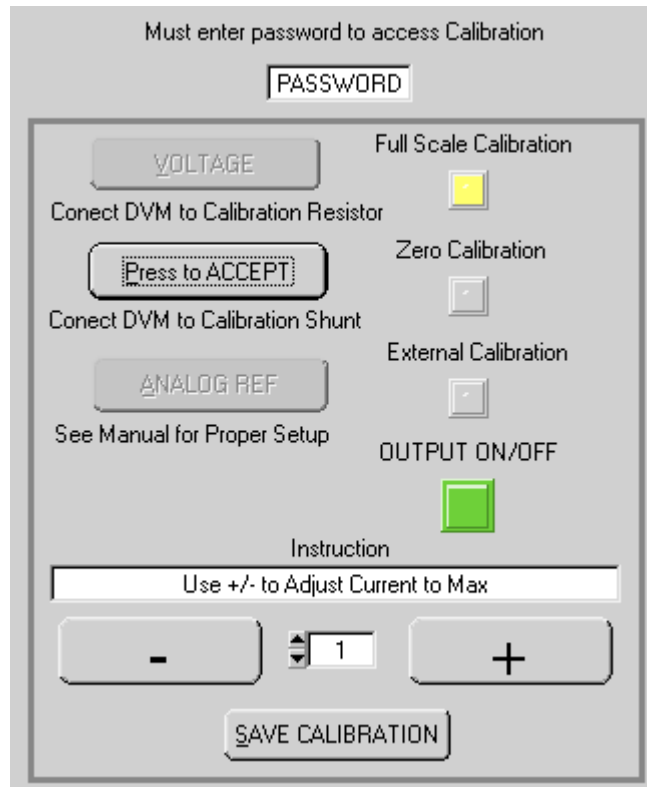

FIGURE 4-3. CURRENT CALIBRATION WINDOW
1. Click the **CURRENT** button on the Calibration Window to start current calibration; the Current Calibration Window (Figure 4-3) appears and the status display on the VXI main panel reads **C MAX**.